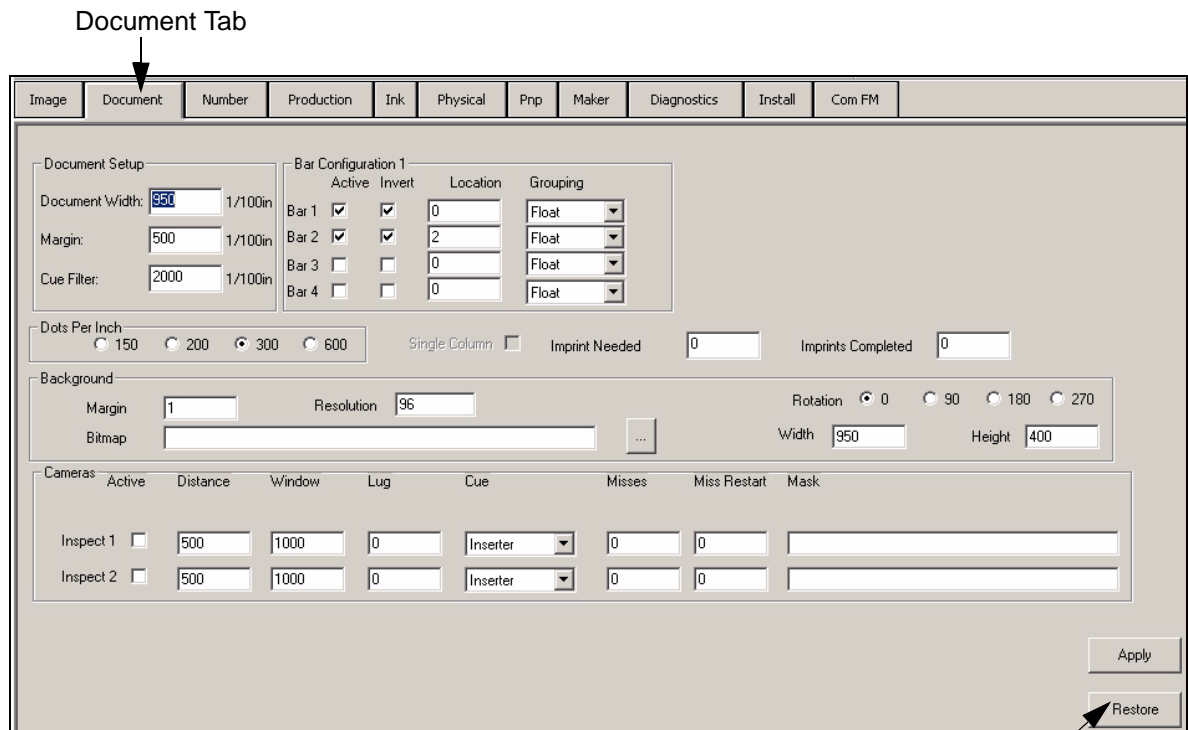

Figure 4-6: Document Tab Setup Parameters
- 2 Click the *Document* Tab. The document setup screen appears (see Figure 4-6).